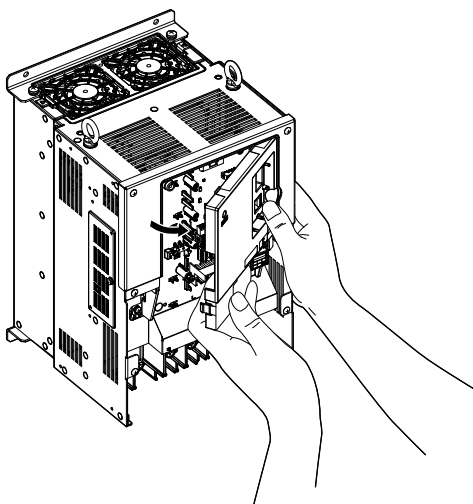

Figure 3.21 Remove the Front Cover (2A0010 to 2A0415 and 4A0058 to 4A1200)
4. Unhook the left side of the front cover then swing the left side towards you as shown in Figure 3.21 until the cover comes off.